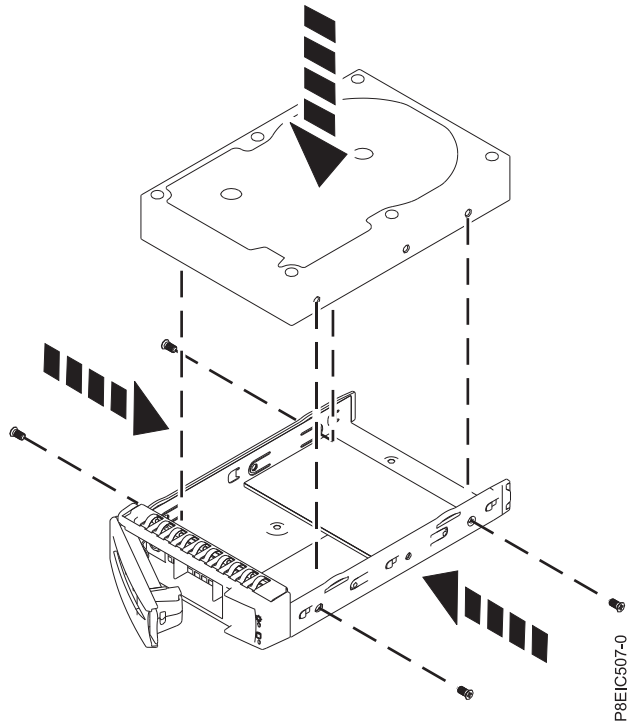

Figure 10. Mounting the 3.5 inch drive in the tray
- A 3.5 inch drive fills the tray, as shown in Figure 10 on page 13. Fasten the drive to the sides of the tray with four screws (2 on each side).